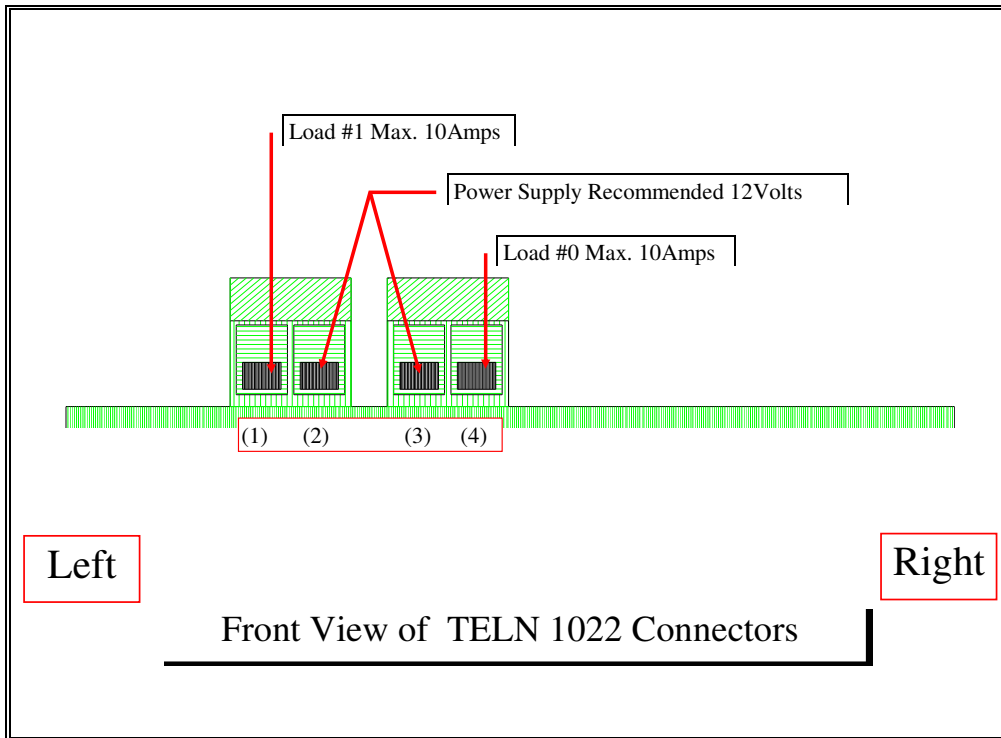

Figure 2.0 TELN 1022 2-Channel Output Module
To wire the TELN 1022 2-Channel Output Module, Refer to figure 2.0 for connector locations. Connect wires into connectors as needed following location and descriptions from figure 2.0.
3. Connect the Power and Output wires as depicted in figure. 2.0 . This will power the board and connect the loads to the Outputs.